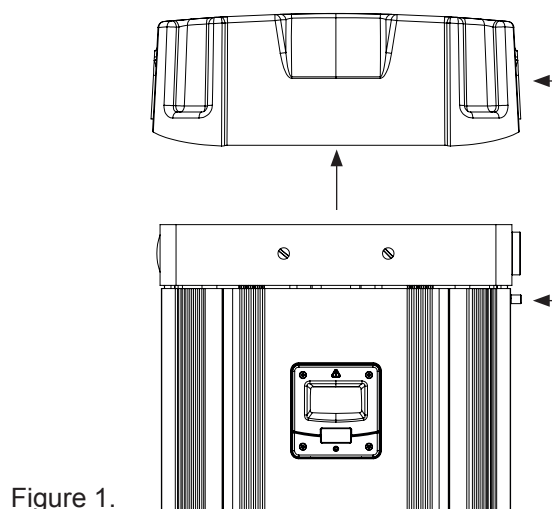

Figure 1.
2. Locate the two latches at the top and bottom of the shroud and pull them towards each other to open the shroud to expose the controller (See Fig 1.).